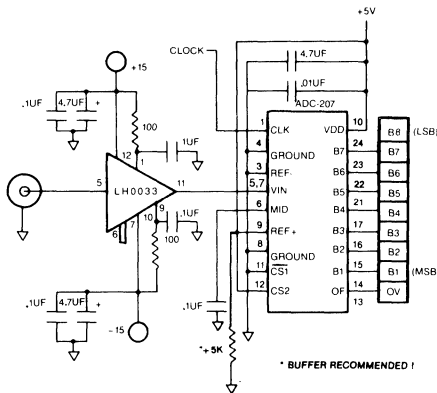

Figure 2. ADC-208 Typical Connections (Adjustment-free)
1. Connect the converter appropriately per the typical connection circuits shown in Figure 2 or Figure 3. Then apply an appropriate clock input. The ADC-208's reference input should be held to  $\pm 0.1\%$  accuracy or better. Do not use the +5V power supply as a reference without precision regulation and high frequency decoupling capacitors.
Figure 3 shows a typical circuit with reference adjustment circuitry. Figure 2 shows a typical circuit where zero, gain and Integral Nonlinearity adjustments are not used. Reference adjust pins not being utilized should be decoupled to ground with a 0.1  $\mu$ F ceramic capacitor.